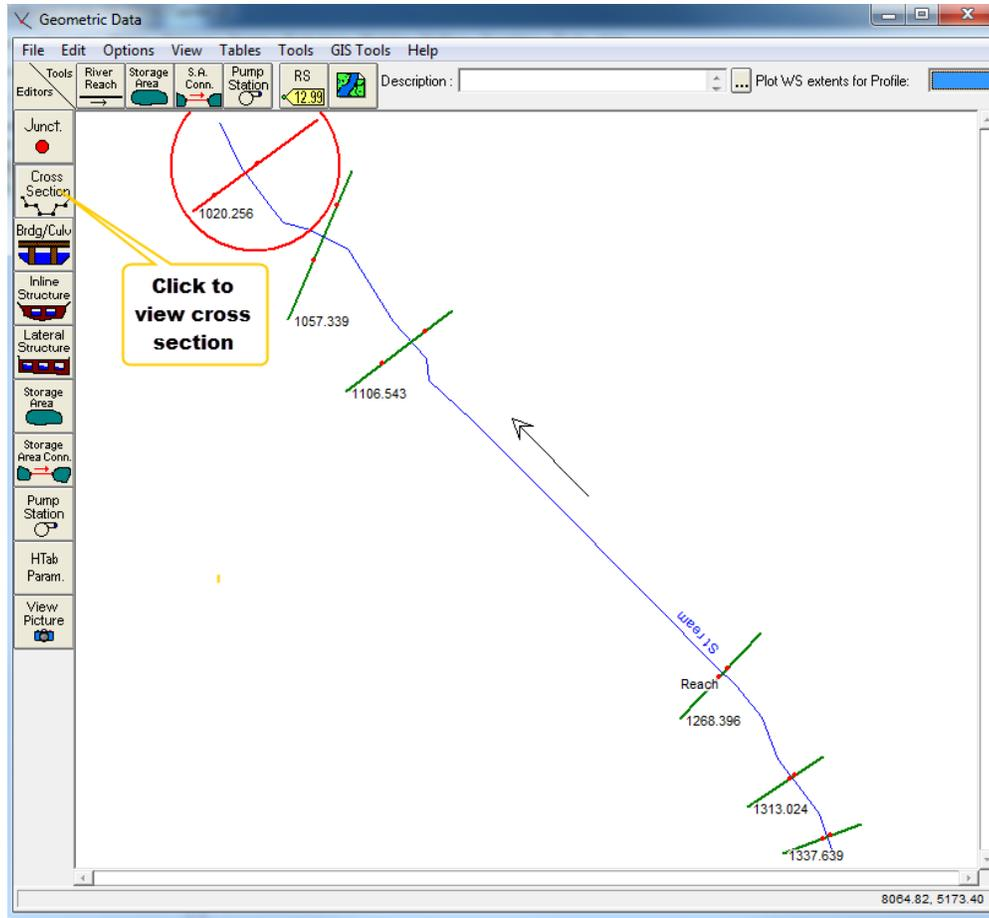

Figure 18 - Geometric Data box
- D. The channel center line with the HEC-RAS cross section lines should appear in the **Geometric Data box** (see Figure 18).